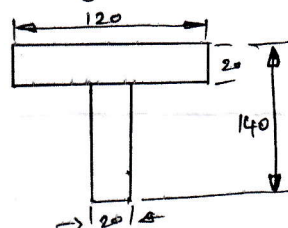

Fig.Q7(b)
- b. The T-section shown in Fig.Q7(b) is used as a simply supported beam over a span of 4m. It carries an uniformly distributed load of 8 kN/m over its entire span. Calculate the maximum tensile and compressive stresses occurring in the section.